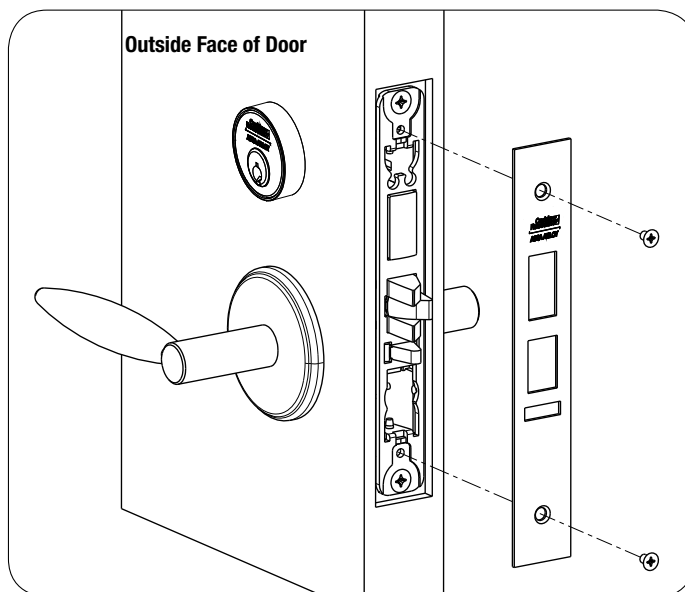

Fig. 14c
- a. Tighten (2) screws through lock body.
- b. Attach armored front with two #8 x 1/4" screws (Fig. 14c).